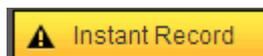

Figure 5-12
- Section 5: Instant record button. Click it, the button becomes yellow and system begins manual record. See Figure 5-12. Click it again, system restores previous record mode.